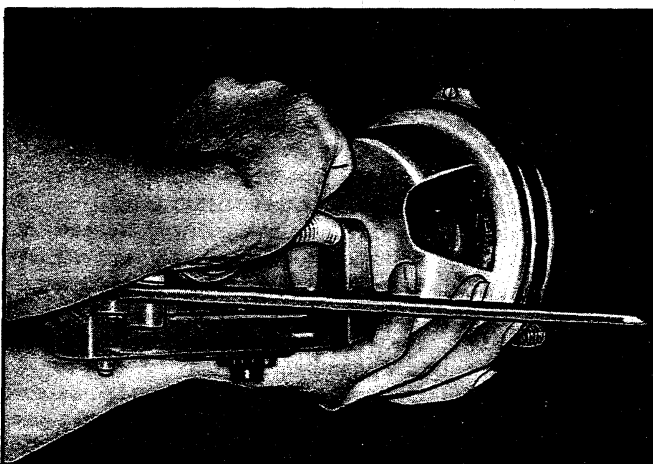

Fig. 3 - Installing Aimer on Headlamp Unit
4. Secure the aimers to the headlamp units by firmly pressing knob at center of each aimer (fig. 3). Rotate crossarms inboard to approximate horizontal position.
2. Remove headlamp bezels and install Aimers on each headlamp (fig. 3) making sure aiming lugs engage smooth inner ring of the Aimer. To install Aimer, press firmly on the knob extending out from the center of the Aimer base. This forces the suction cup into place on the Sealed Beam unit.